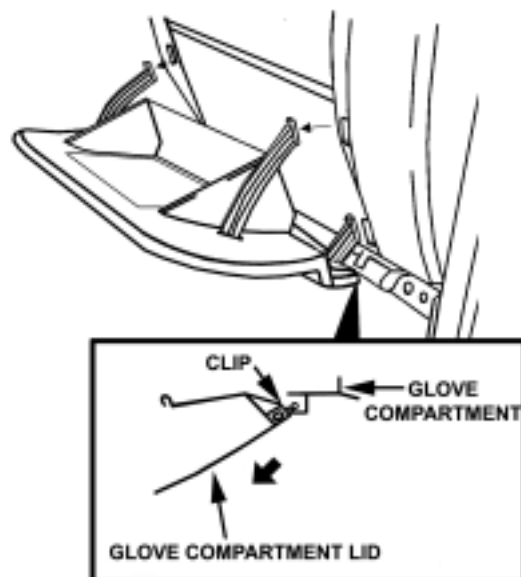

FIGURE 9
- 3.) PULL THE GLOVE COMPARTMENT LID OUTWARD WHILE LOWERING IT TO THE POSITION AS SHOWN THEN DETACH THE CLIP AND REMOVE THE GLOVE COMPARTMENT LID. (SEE FIGURE 9)